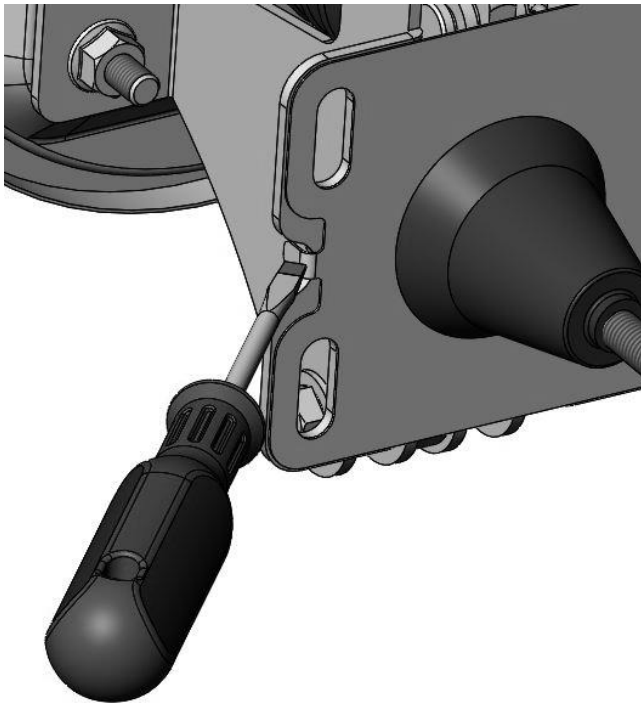
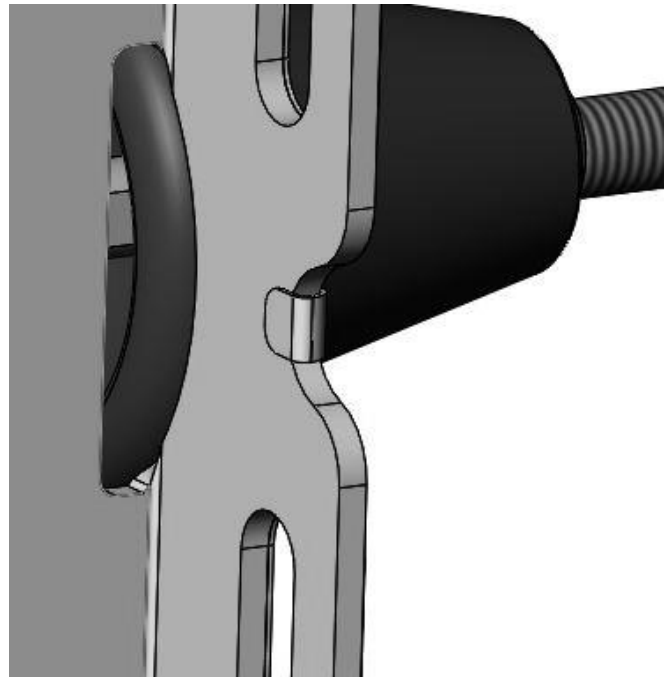

Figure 2a – Folding the Tabs
Figure 2b – Tabs Fully Folded Over
5. Install the Firewall Mounting Plate and Boot at this time. To secure, fold the tabs on the plate onto the bracket as shown in Figure 2a below and fully installed in Figure 2b below.